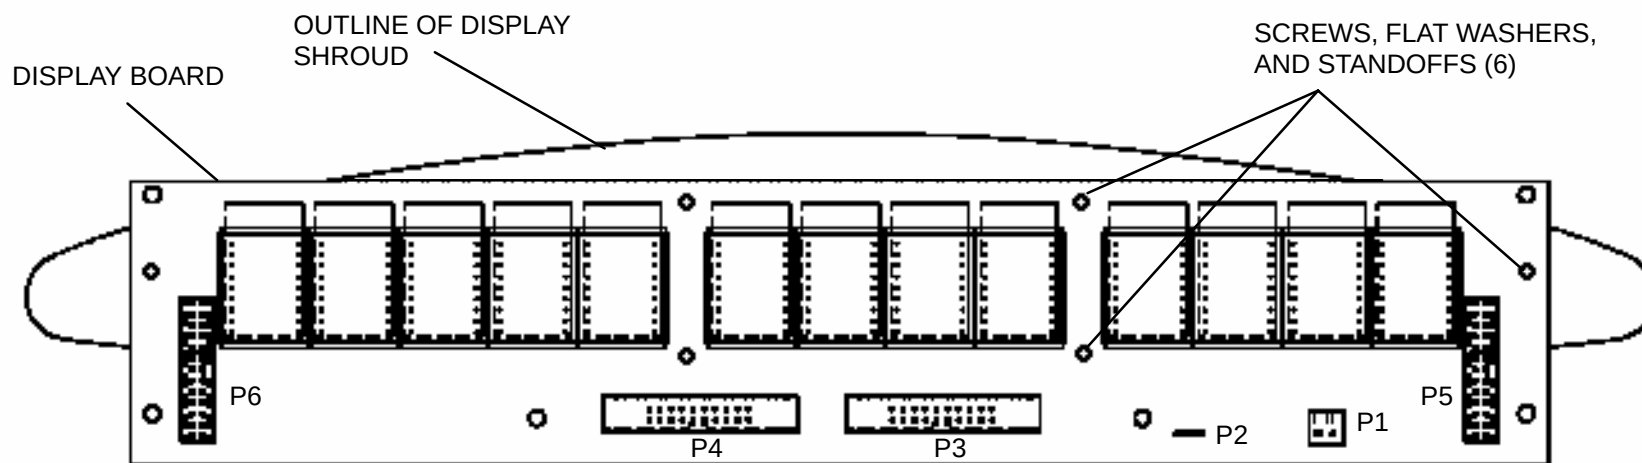

FIGURE 247 Display Shroud Positioning on Display Board (as viewed from underneath gantry front cover).
4. Remove six screws, flat washers, and standoffs securing the front display shroud to the display board, and remove shroud from the front of the gantry cover. Refer to Figure 247.
3. Position front display shroud over gantry front cover, and install six screws, flat washers, and standoffs securing the shroud to the display board. Refer to Figure 247.